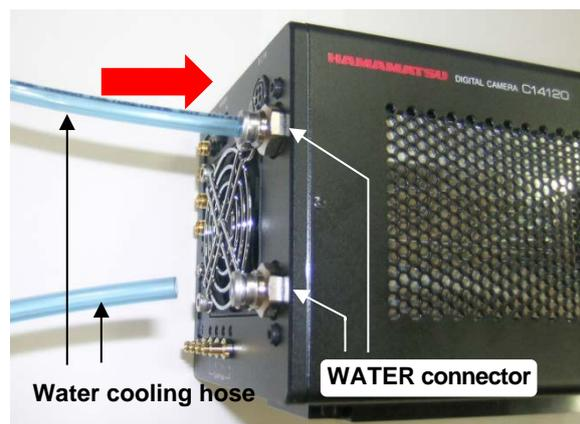

Figure 11-2
2. Connect water cooling hose into the WATER connector on the camera. (as shown in Figure 11-2) Confirm the hose stops at it.